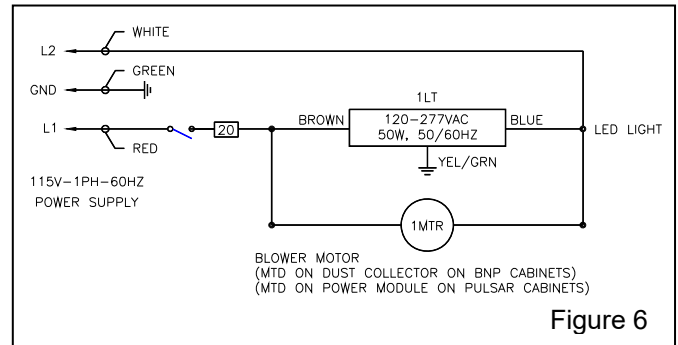

Figure 6
4.2 Connect the wires as follows – Figure 6